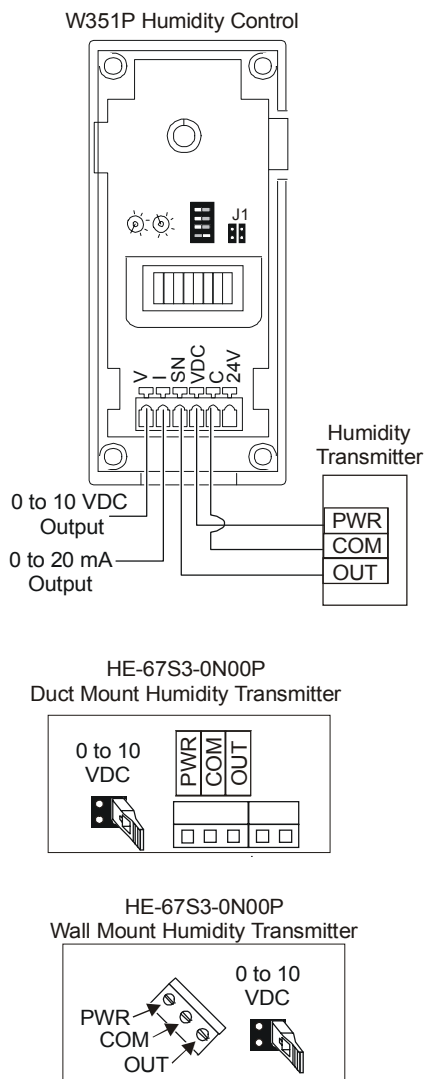

Figure 9: Transmitter Wiring
2. Insert the appropriate wire into the opening. (See Figure 9 for terminal designations.)